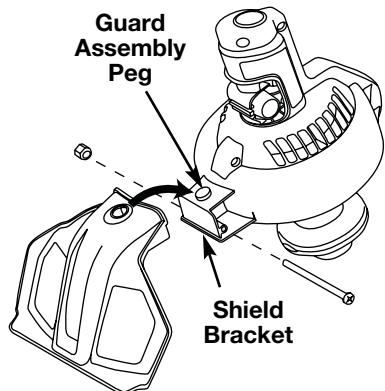

Fig. 3
- Place the narrow end of the cutting attachment shield over the shield bracket and position it so that the circular cut-out slips over the guard assembly peg (Fig. 3).